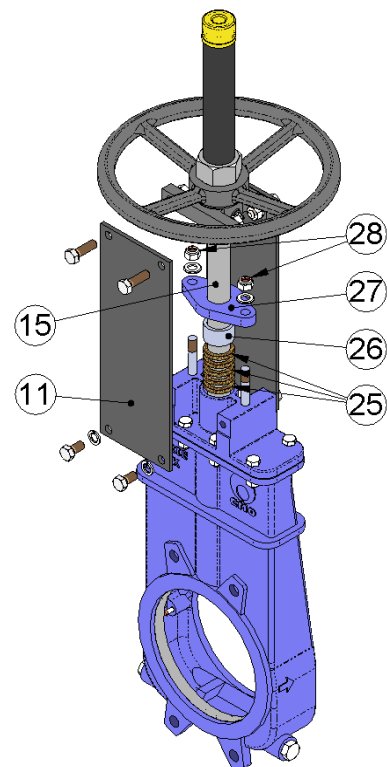

fig. 9
3. Although not essential, for more comfort and more space to work it is advisable to release a support plate (11) as shown in fig. 9.
4. Loosen the nuts (28) and lift the packing gland flange (27) and the packing gland bushing (26) over the spindle.
5. Remove the old gasket (25) using a pointed tool, taking care not to damage the surface of the spindle (15).
7. Insert the new gasket (25). During this operation it is very important for both ends of each ring to be perfectly joined. Below we show the gasket dimensions (Table 5).
8. Place the packing gland bushing (26) and packing gland flange (27) in their original position, making sure not to touch the rod (15), carefully tighten all the nuts (28) crosswise, ensuring the same distance is left between the packing flange (27) and the rod (15) on both sides, then mount the support plate (11).
**Note:** The numbers in brackets refer to fig. 9.